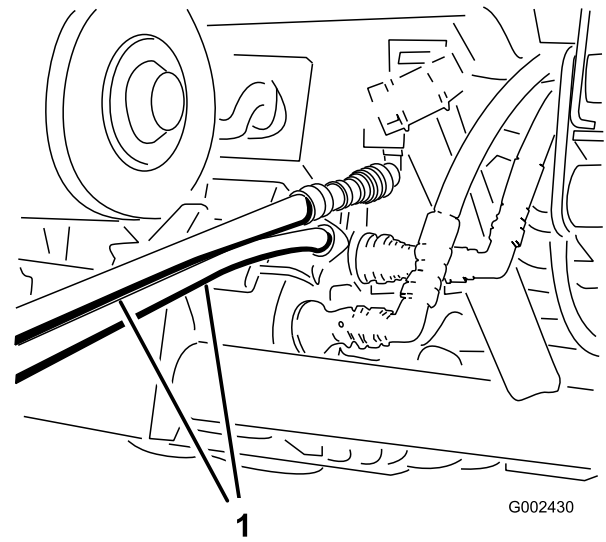

Figure 81
4. On the other vehicle, connect the two hoses to the coupler still in the coupler bracket (connect the top hose to the top coupler and the bottom hose to the bottom coupler) (Figure 81). Cap the unused fittings.